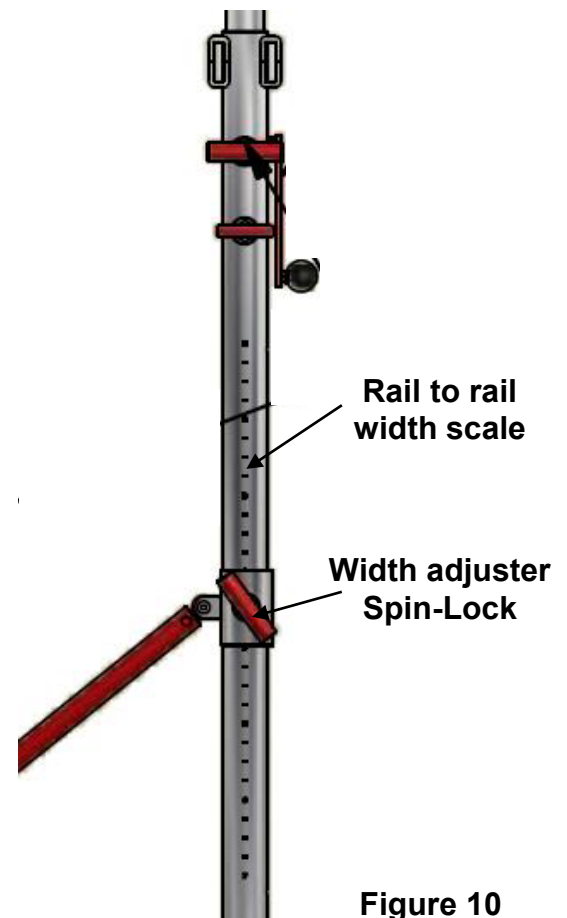

Figure 10
2. To adjust the Width between the Rails, see **Fig. 10** and proceed as follows: